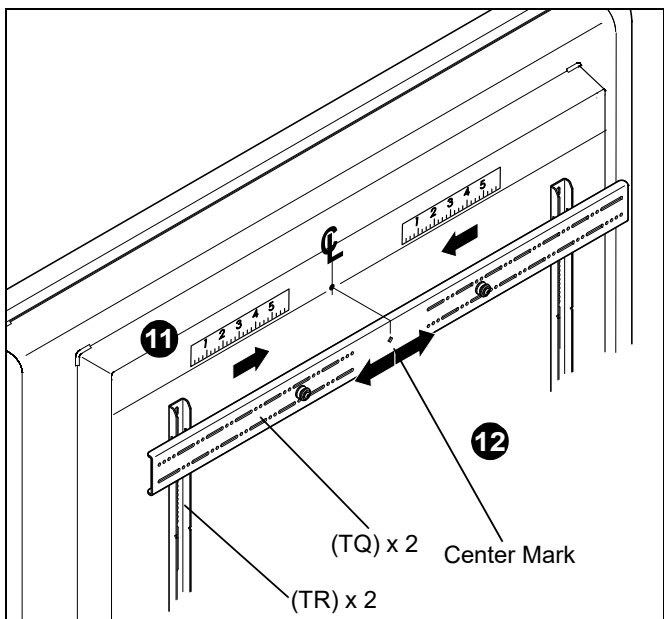
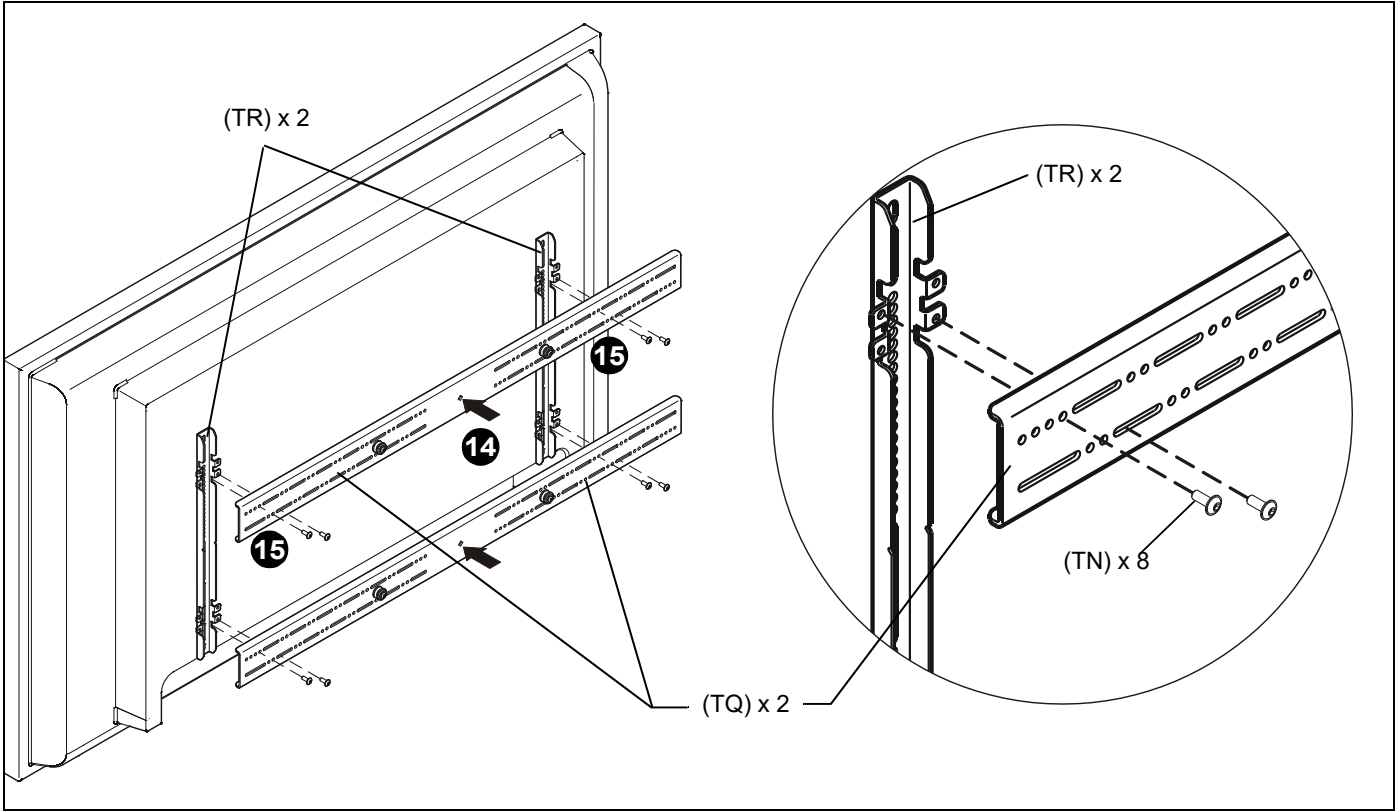

Figure 17
Figure 18
11. Determine and mark the horizontal center position between the Left and Right *TOP* mounting holes in display. (See Figure 17)
12. Determine and mark the horizontal center position between the Left and Right *BOTTOM* mounting holes in display. (See Figure 17)
13. Orient upper horizontal mounting bracket (TQ) so that flanges are facing towards display and resting in recessed area of left and right vertical mounting brackets (TR). (See Figure 17)
14. Adjust Upper horizontal mounting bracket (TQ) position until center diamond in horizontal mounting bracket (TU) aligns with mark made in Step 11, and mounting holes and slots in horizontal mounting bracket (TQ) are aligned with threaded holes in mounting tabs of left and right vertical mounting brackets (TR). (See Figure 17) and (See Figure 18)
15. Use 1/8" hex key (TP) to secure upper horizontal mounting bracket (TQ) to left and right vertical mounting brackets (TR) using four button head flanged screws (TN). (See Figure 18)
16. Repeat Steps 12 through 15 for lower horizontal mounting bracket (TQ).
IMPORTANT ! : The orientation of, and mounting holes used, when installing the lower horizontal mounting bracket must be the same as the upper horizontal mounting bracket. Vertically align upper and lower brackets by aligning holes or end of slots. (See Figure 18)
IMPORTANT ! : Whenever possible install mounting screws diagonally as shown in detail in Figure 18.